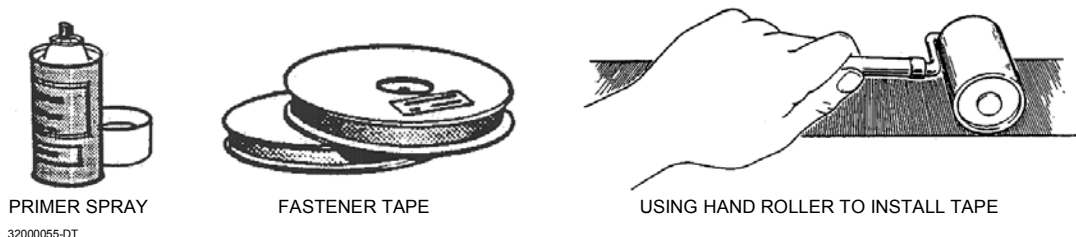

Figure 2-10. Fastener Tape Preparation.
- b. Spray a heavy coat of tape primer on the cleaned areas along the strip where the fastener tape will be applied. Allow primer to dry thoroughly (follow the directions on the primer can) before applying the fastener tape. (See Figure 2-10.)